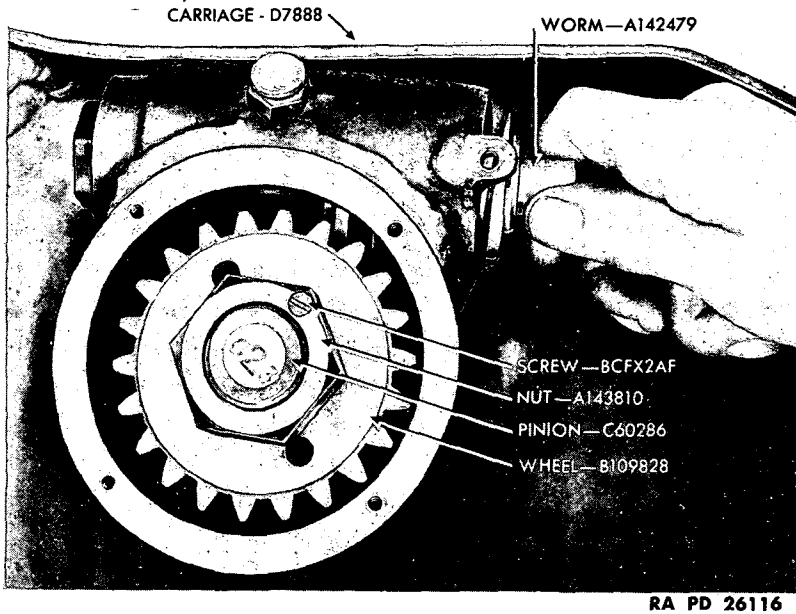

Figure 121—Removing Elevating Worm
- (d) Rotate elevating worm in a clockwise direction and remove it from the housing (fig. 121). Then remove the other worm bearing from the housing.
- (6) REMOVE BEARING FROM BEARING RETAINER.
(b) Take out screw BCFX2AF, and elevating pinion nut A143810 (fig. 121) is free to be removed.
(b) Tap the worm wheel in place on pinion shaft and draw all the way into position by screwing on the nut A143810 (fig. 121). Secure nut with set screw. Place gasket and gear case cover in place and secure with four screws.